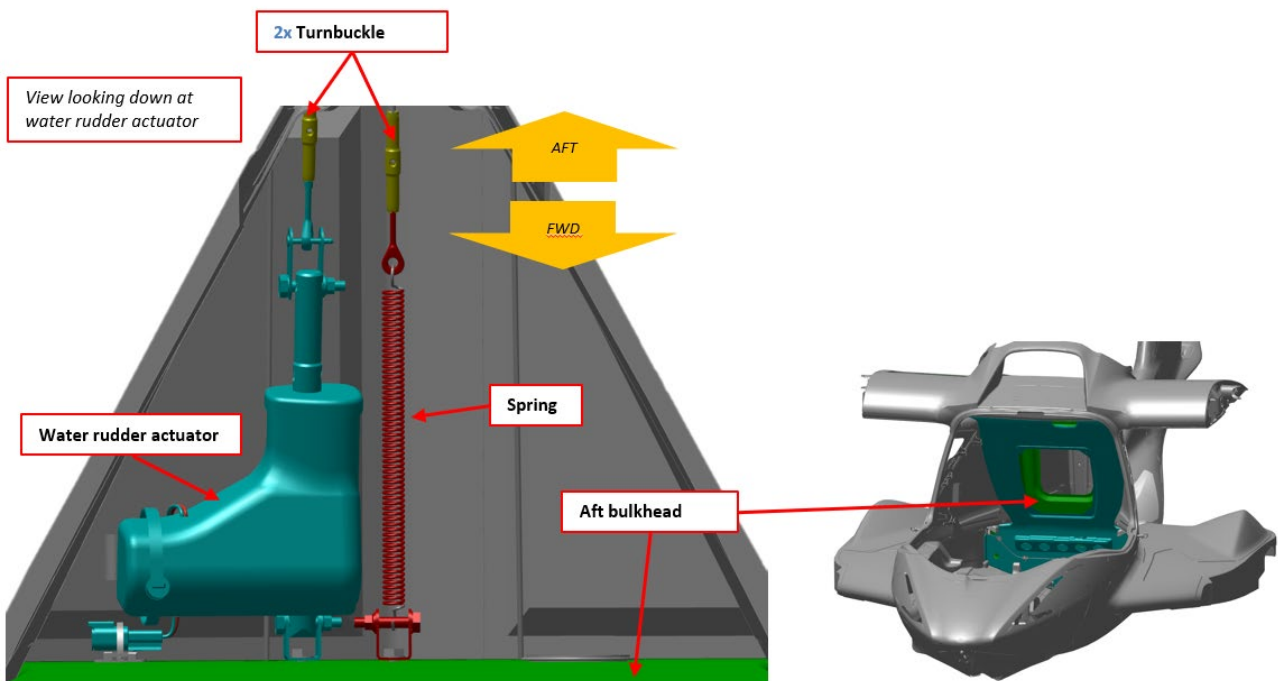

Figure 17. Install Turnbuckles
- x. Attach turnbuckle to rod end on actuator and actuator cable. Note: Attempt to install on both rod ends simultaneously. Tighten turnbuckle 2 full turns while holding cable and rod end as to not twist or bind cable. **(Figure 17)**